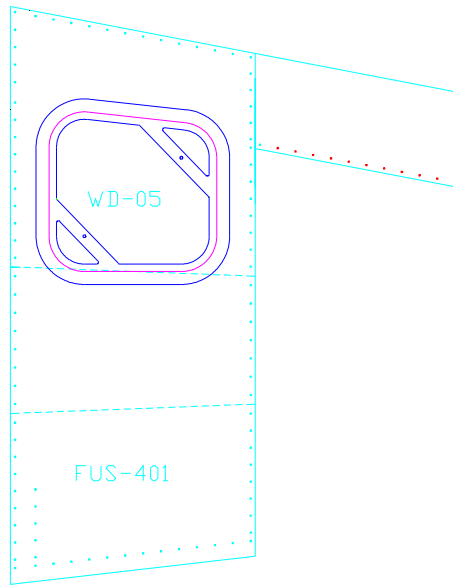

Figure 20.4.1
- 1) The side window is installed level to the door window and centered between the bulkheads. Figure 20.4.1.